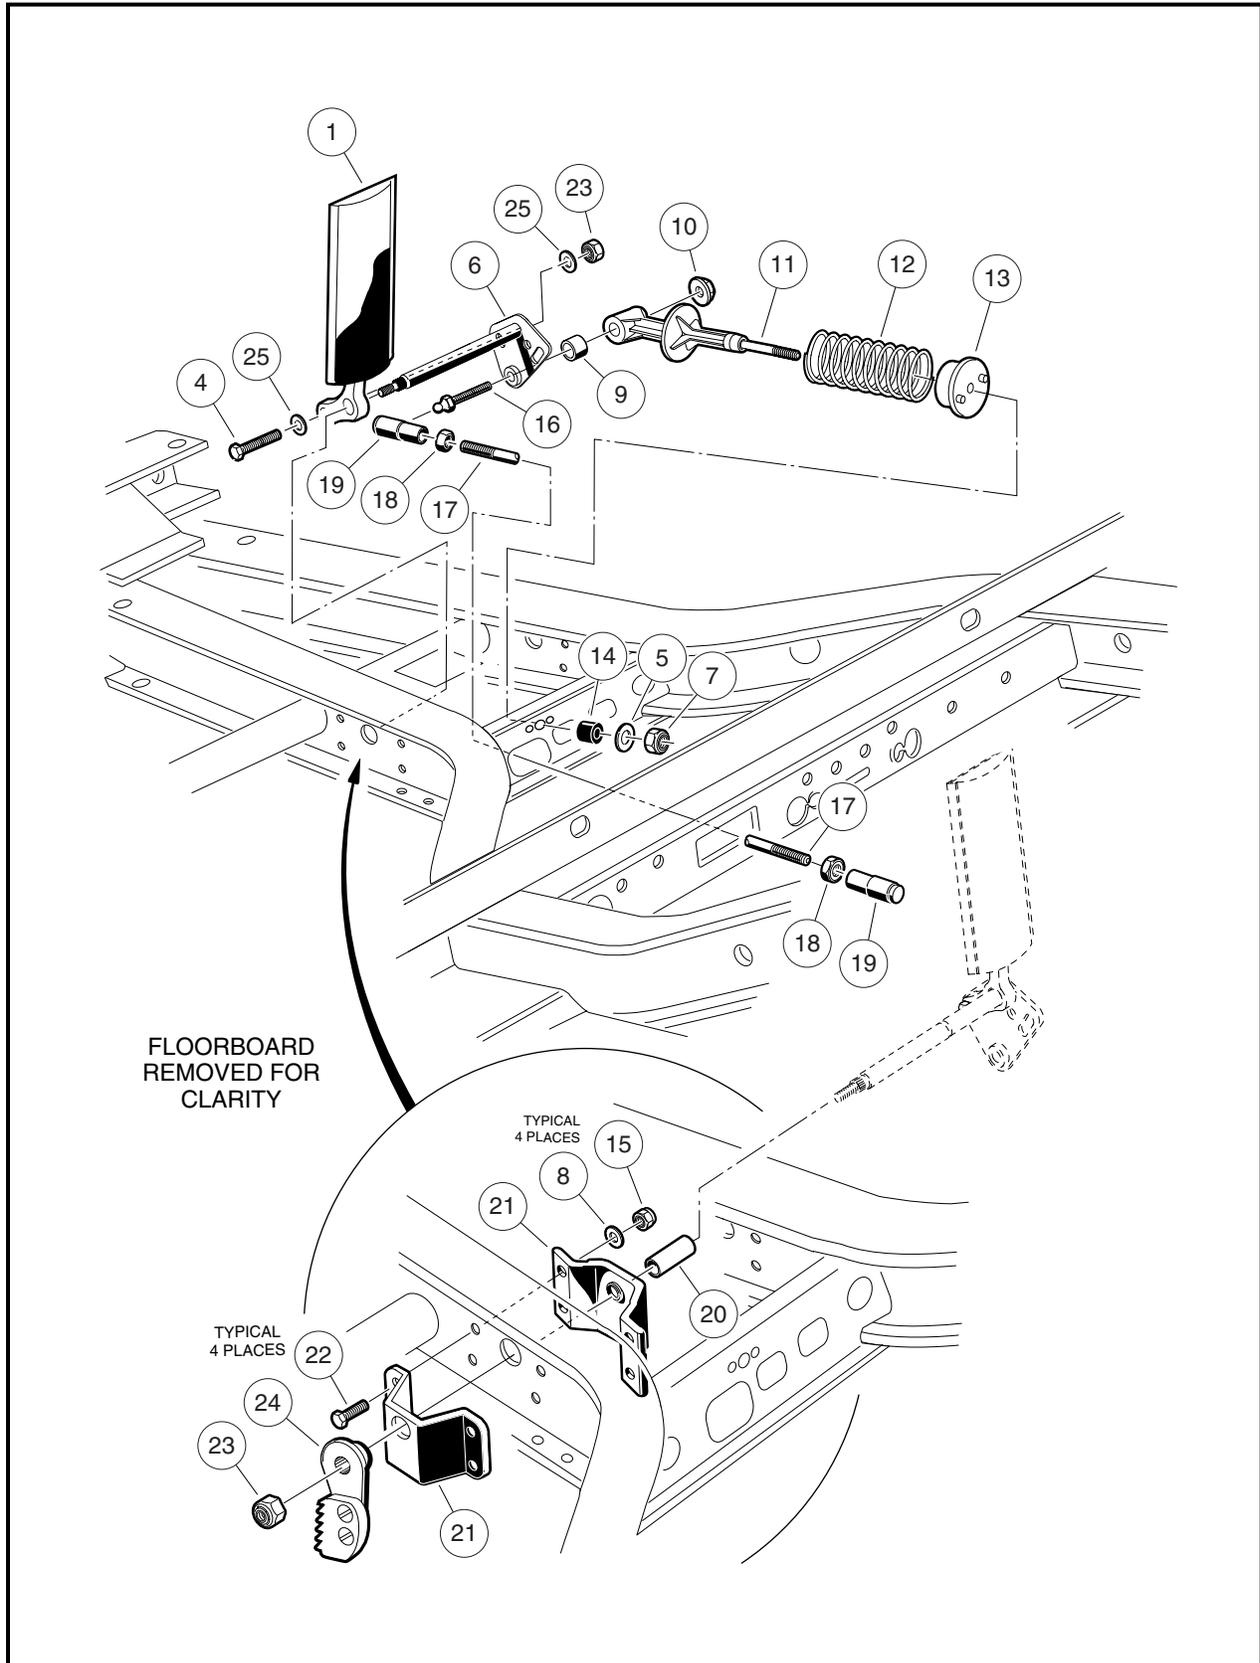

Figure 5-43 Accelerator Pedal Assembly – Gasoline Vehicles and V-Glide (36-Volt) Vehicles
- 6.4. While holding accelerator rod (17) with pliers, loosen the jam nut (18) and adjust the ball joint (19) sleeve to fit on the wiper switch ball stud, with approximately the same number of threads showing at each end of the rod (**Figure 5-43, Page 5-25**). Then tighten jam nut (18) against the sleeve.